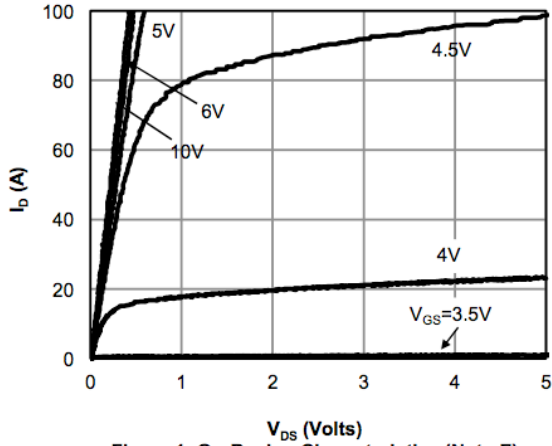

Figure 1: On-Region Characteristics (Note E)
- E. The static characteristics in Figures 1 to 6 are obtained using  $<300\mu s$  pulses, duty cycle 0.5% max.